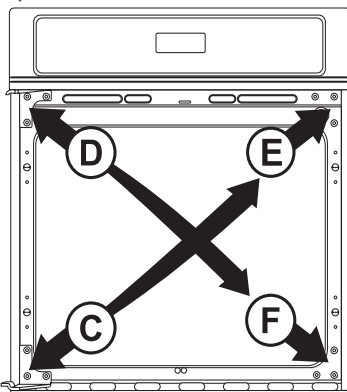

Figure 8
6.2.2. Remove the lower hinge on the left side of the oven frame (See C, Figure 8) and install it on the upper right side of the oven frame (see E, Figure 8).
6.2.3. Remove the upper hinge on the left side of the oven frame (see D, Figure 8) and relocate it on the lower right side of the oven frame (see F, Figure 8).